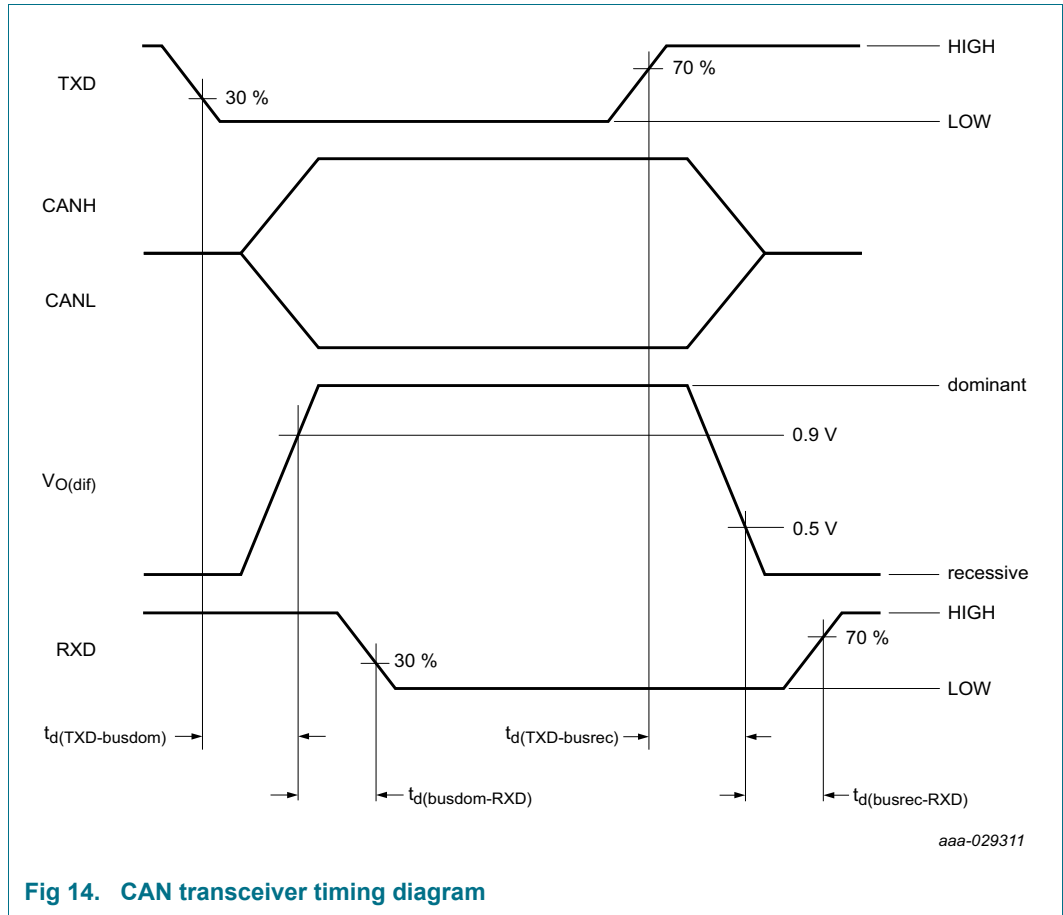

Fig 14. CAN transceiver timing diagram
- [2] See Figure 14 and Figure 19.